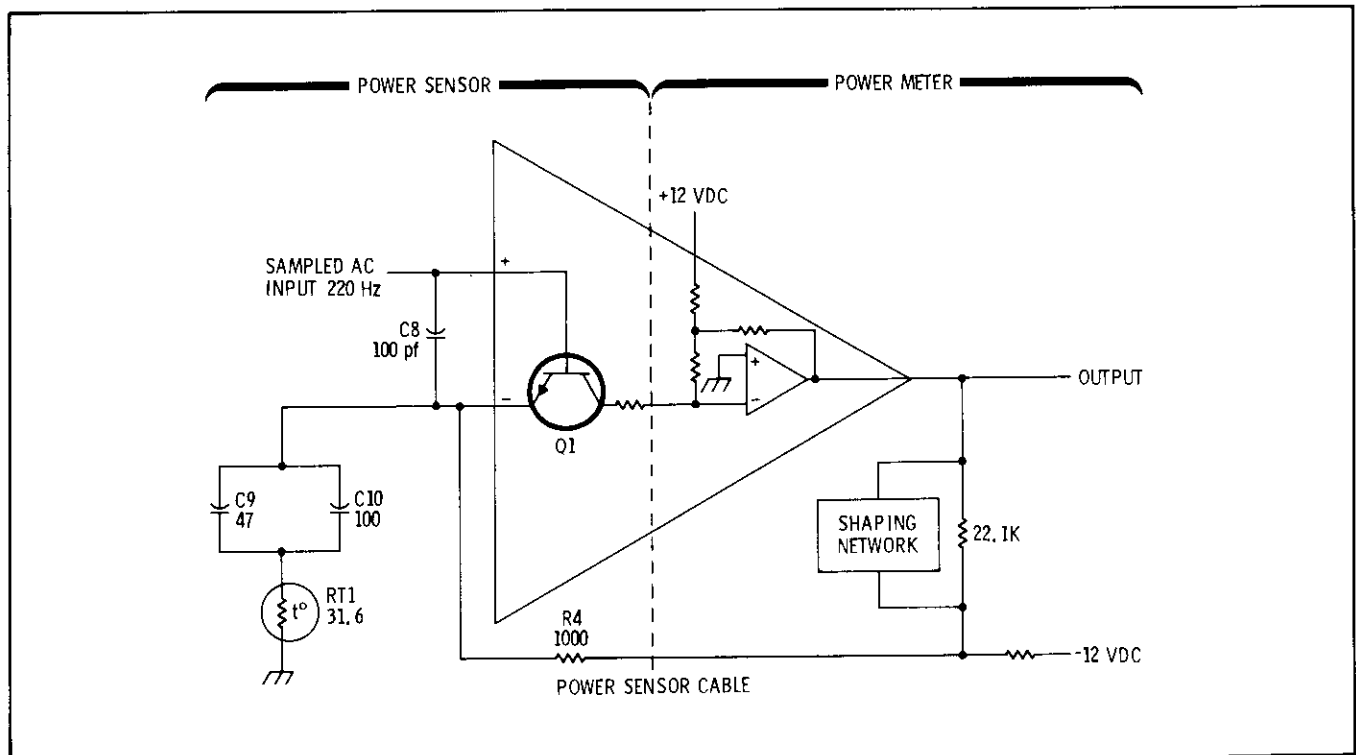

Figure 4. Operational Amplifier
51. The output of A2U1 is amplified about 700 times by an operational amplifier made up of A2Q1 and the first amplifier stage in the power meter. Figure 4 is a simplified diagram of the complete operational amplifier.